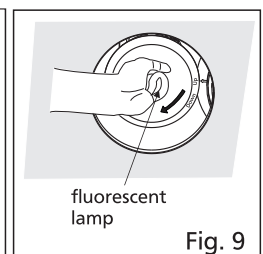

Fig. 9
12. Install the fluorescent lamp. (Fig. 9)